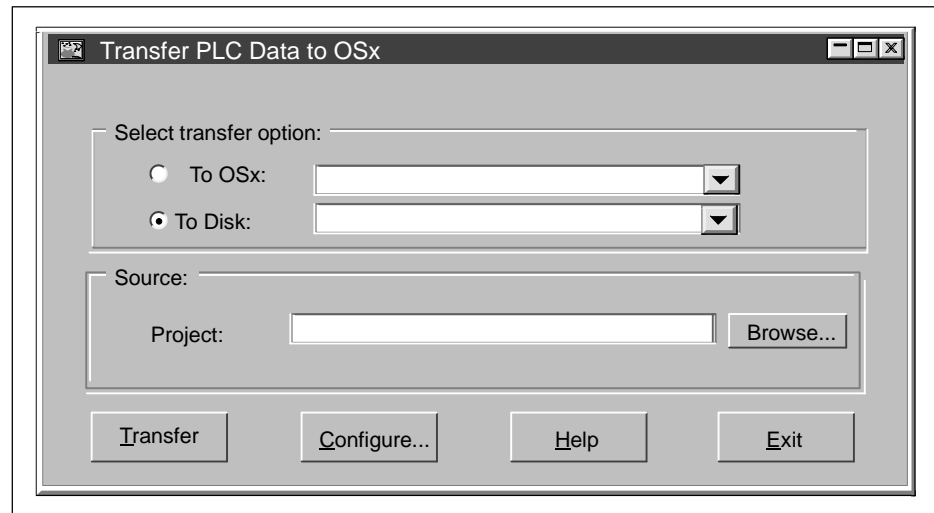

Figure 2-18 Transfer Dialog Box
1. Start the transfer program from the **Start** button at the bottom left of the Windows main screen. Select **Simatic->Transfer PLC Data to OSx**. The Transfer dialog box appears (Figure 2-18).